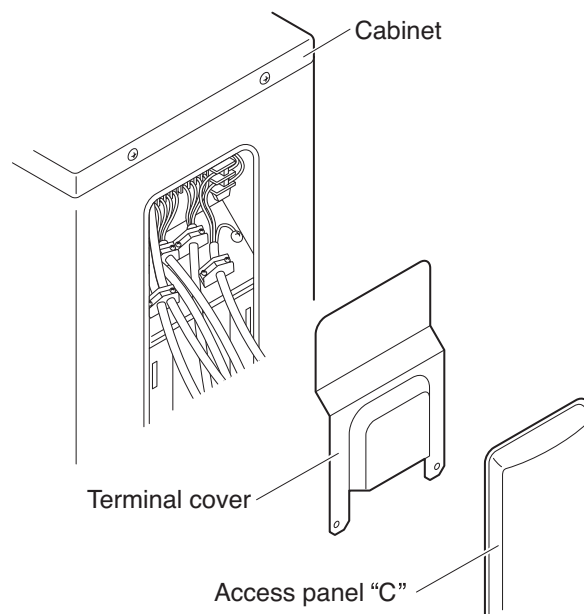

Fig. 32
- (1) Remove access panel "C" and the terminal cover. (Fig. 32)
- (2) Connect the inter-unit wiring and power line according to the drawing on the panel side.
- (3) Be sure to size each wire allowing approx. 10 cm longer than the required length for wiring. Store excess wiring inside the cabinet.
- (4) When connections are completed, check that all connections are correct as shown in the wiring system diagram on panel side.
- (5) Be sure to ground the unit according to your local codes.